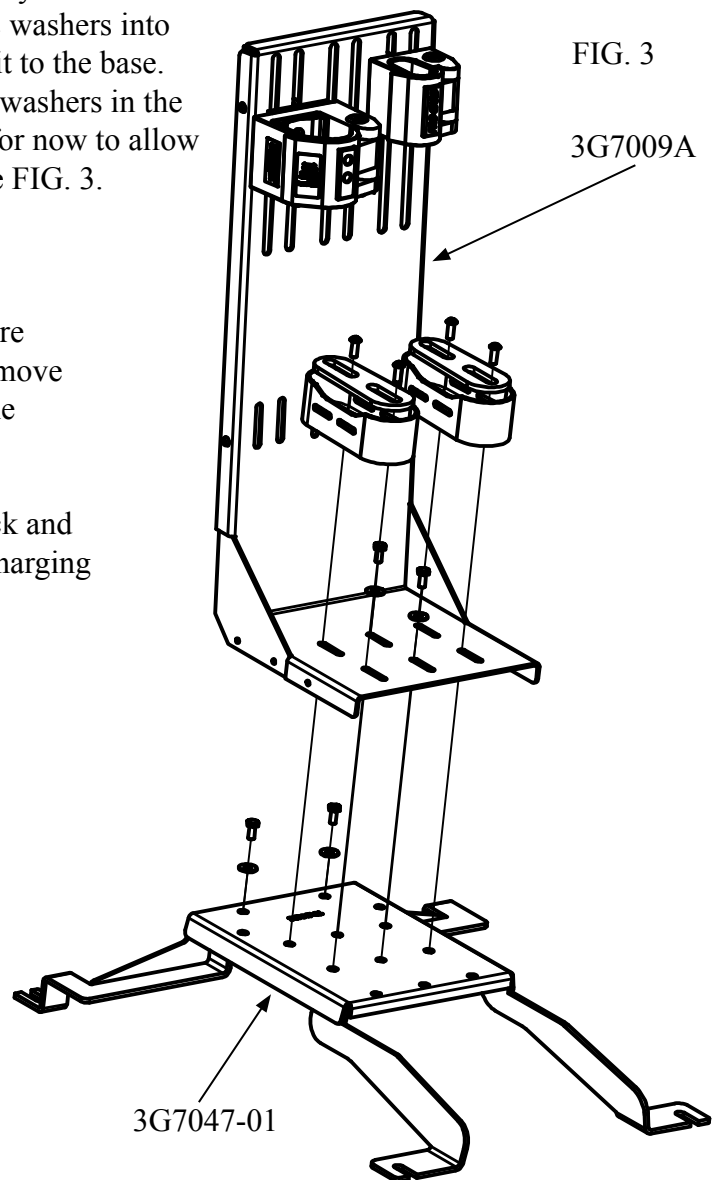

FIG. 3
- B. Locate the rear seat bolts and studs that secure the back seat. The bolts and studs are located in the front of the rear seat. The bottom of the seat has a skirting around it and that will need to be pulled loose at the bottom. Once the skirting is lifted up at the bottom the bolts and studs will be located there. The bolts and studs are 15 mm and they will need to be loosen so that the seats can be lifted about 1/2". See Fig 2. Then install the rear support bracket by pusing the seats backwards. Then slide the slots of the rear support bracket under the seat frame. Once the slots of the rear support bracket are slid into place, tighten the bolts and studs. Then secure the mounting base to the rear support bracket using two 3X04 bolts and two 3X12 washers.(See FIG. 3)
C. Rest the gun rack, 3G7009A on the previously installed base. Install two 3X04 bolts with two 3X12 washers into the rear two slots of the gun rack to secure it to the base. Install two more 3X04 bolts and two 3X12 washers in the two middle slots. (Leave these bolts loose for now to allow movement of the gun rack on the base). See FIG. 3.